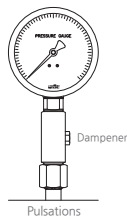

Figure 3
- 5) Dampner or Gauge protector is recommended where pulsation or impulsive pressure is present. (Figure 3, 4)